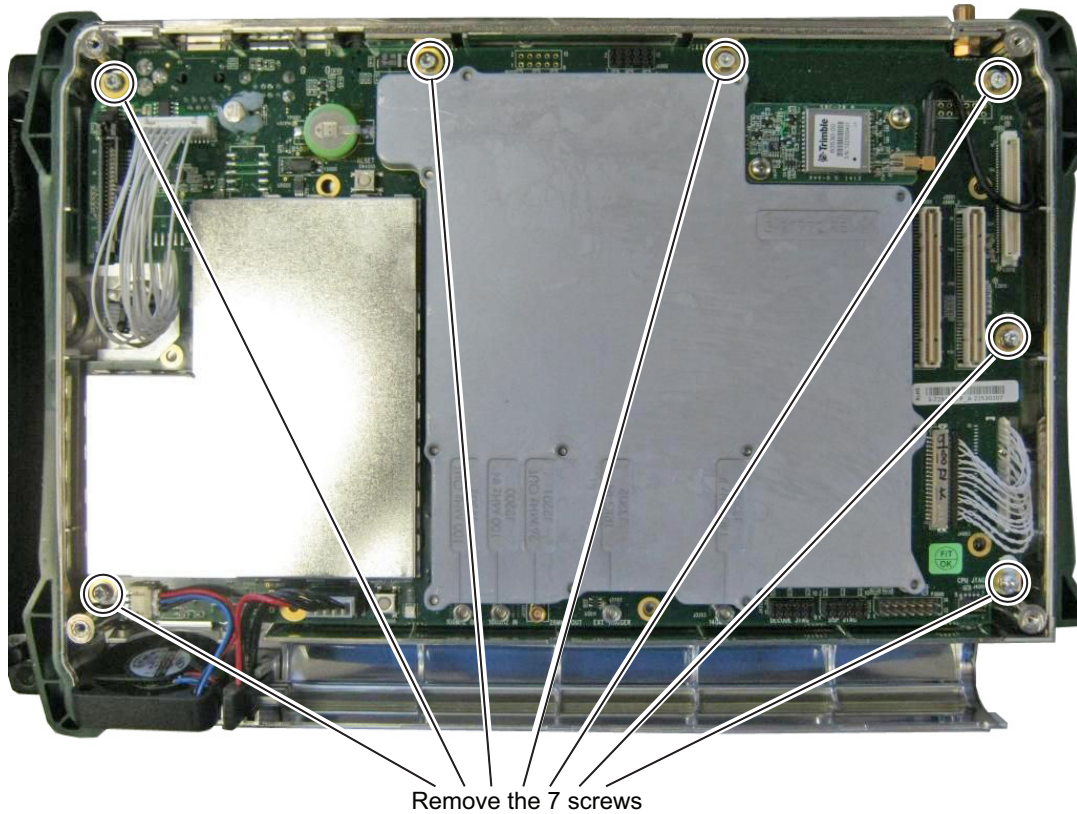

Figure 5-8. Remove the 7 Screws Retaining the Main PCB Assembly
7. Remove the 7 Torx (T10) screws retaining the Main PCB Assembly to the Spectrum Master case (Figure 5-8).